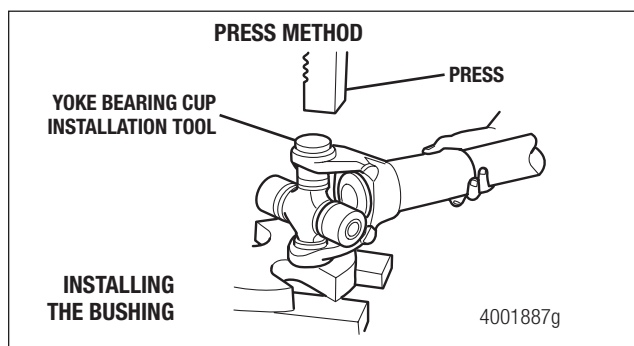

Figure 9.16
3. Use an appropriate press to install the first bushing slightly past the snap ring groove. Figure 9.16.
6. Use an appropriate press, yoke bearing cup installation tool or universal joint press to install the second bushing slightly past the snap ring groove. Check that the bushing is aligned with the universal joint. Figure 9.16.